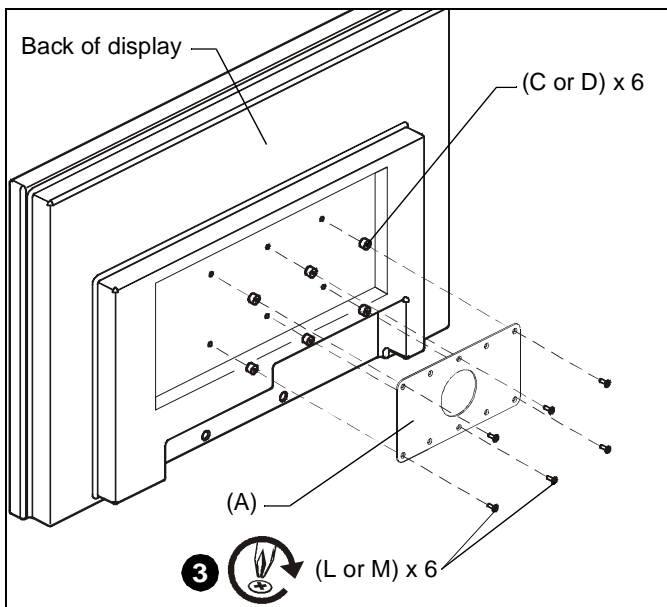

Figure 5
1. Align and place six spacers (C or D) over mounting holes in display back. (See Figure 5)
2. Align and place interface bracket (A) over six spacers (C or D). (See Figure 5)
3. Secure interface assembly to display back using six M4 x 20mm (L) or six M4 x 25mm (M) Phillips flat head screws. (See Figure 5)